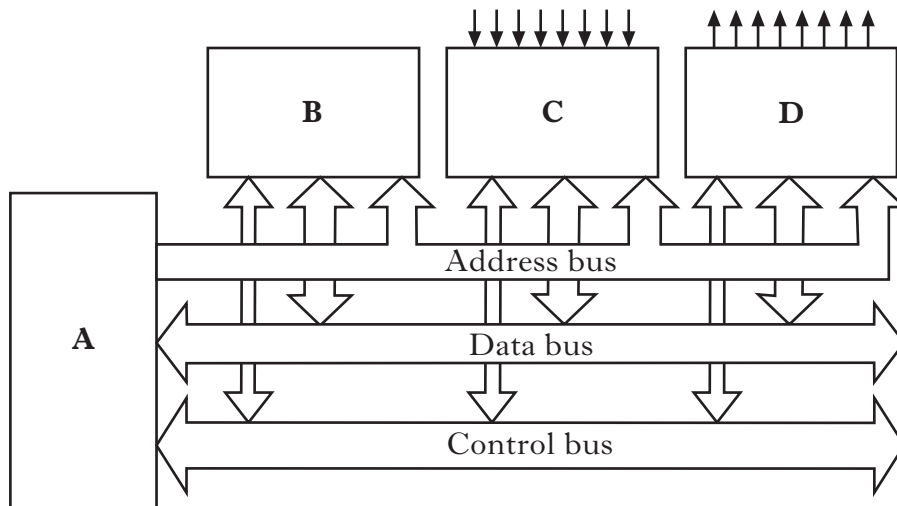

Figure Q2
2. The diagram in Figure Q2 shows the basic architecture of a microcontroller. Some elements have been labelled with the letters A, B, C and D.
(a) State the names of the elements labelled A, B, C and D in Figure Q2.
(b) With reference to Figure Q2, state which **one** of the following three statements correctly describes the nature of the data flow on the **data bus** in a microcontroller.